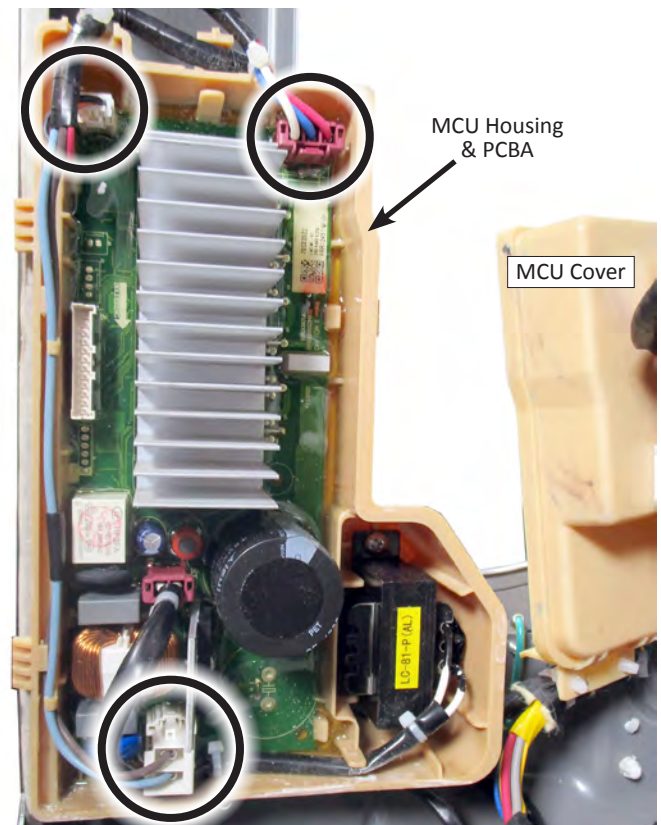

Figure 3
8. Disconnect the connectors indicated in Figure 3.